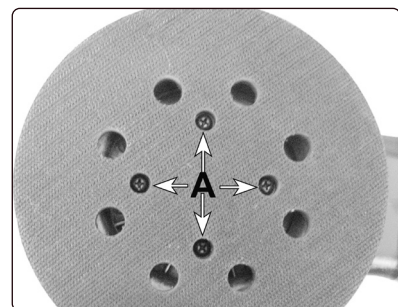

fig.3
- 5.2. Change pads when required. Ensure pad and disc RPM ratings are equal to, or exceed the machine rating. If the disc becomes unbalanced, it will cause the bearings to wear. To change the backing pad remove the four screws and washers (A) shown in fig.3. Replace the pad and secure.